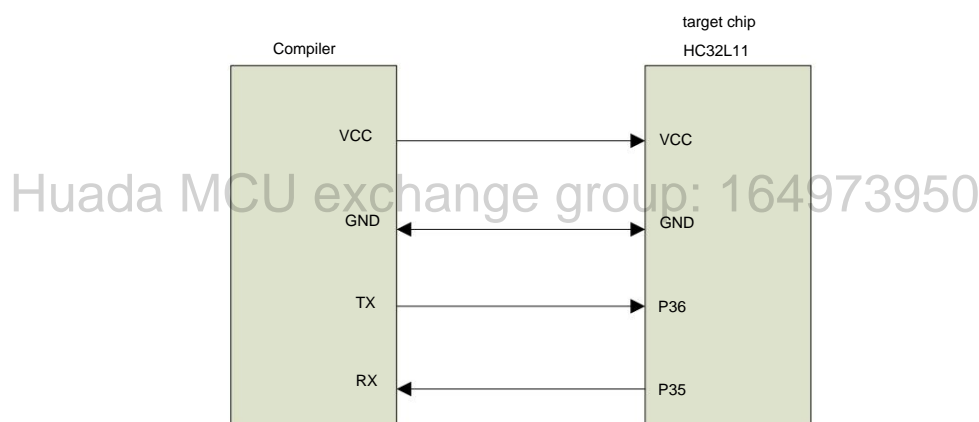

Figure 1 Serial programming connection
- 2) The signal line on the programmer side needs to be connected to the four signal lines of VCC, GND, TX and RX as shown in Figure 1 (using HC32L110 series as an example).